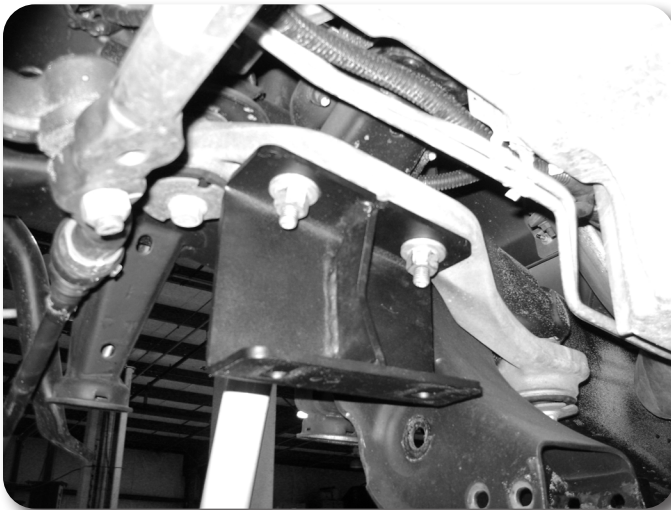

Figure 28
41. Locate the new passenger's side differential bracket. Bracket has a single center gusset. Install the bracket on the existing studs on the passenger's side factory bracket. Fasten with the original nuts and washers. When installed the open side of the bracket will face inward and the bracket will taper down as it goes to the rear Figure 28. Torque nuts to 65 ft-lbs.